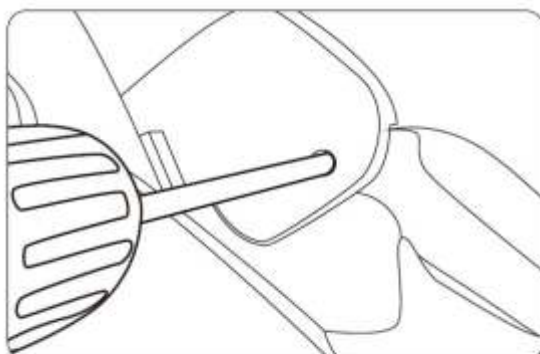

Figure 9
3) Now fix the arm rest with two Phillips screws. (Figure 9|10)